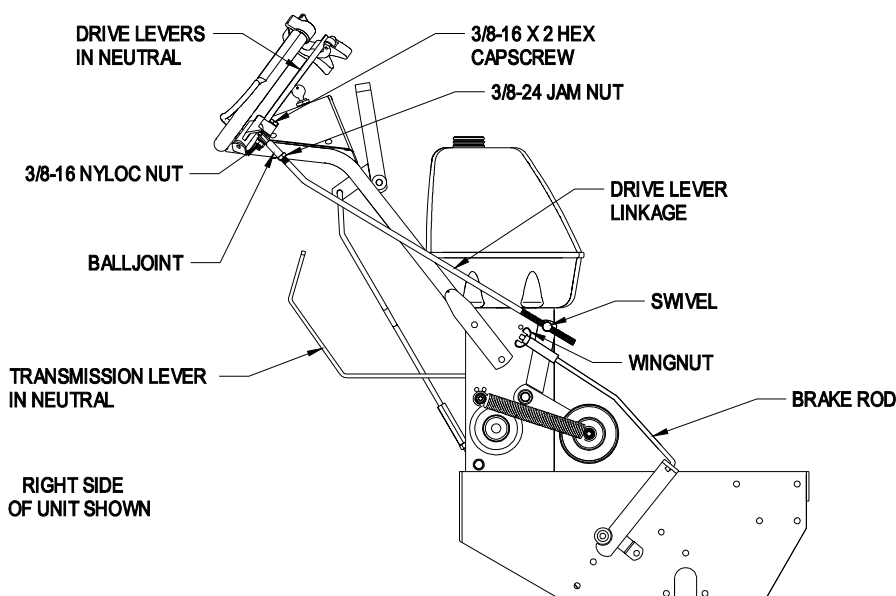

FIGURE 7
- Locate the drive lever linkages which have the balljoint and jam nuts installed on one end. Locate the (2) 3/8-16 x 2 Hex cap screws and (2) 3/8-16 nyloc nuts in the bolt bag. Thread drive lever linkage into the swivel located on the wheel drive idler arms. Thread in until the flat edge of the drive lever aligns with bottom of the roller notch in the neutral lock/park brake latch. With the drive lever in this position, insert the 3/8-16 x 2 hex cap screw through the hole in the drive lever and the hole in the balljoint and secure with the 3/8-16 nyloc nut. Tighten nut. Repeat for the other side. See Figures 7 and 8.
- c) Adjust brakes by adjusting wingnut on the upper end of each brake rod. Tighten the wingnut until the brakes engage when the drive levers are squeezed enough allow the neutral lock/park brake latches to be placed into the “park brake” position. See Figure 7.